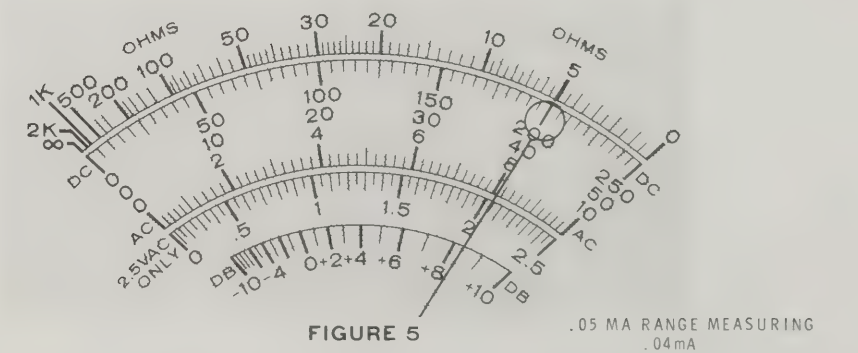

FIGURE 5
**.05 MA RANGE** — Read the 50 scale and move the decimal three places to the left. For example, a reading of 40 would indicate a measurement of .04 mA as shown in Figure 5 (fold-out from Page 27).